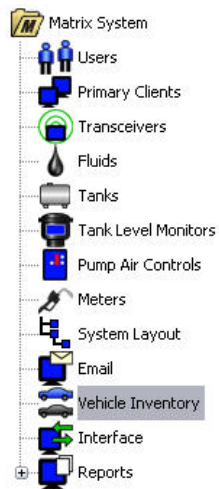

FIG. 166
1. Select **Vehicle Inventory** from the list on the Matrix System Panel (FIG. 166).